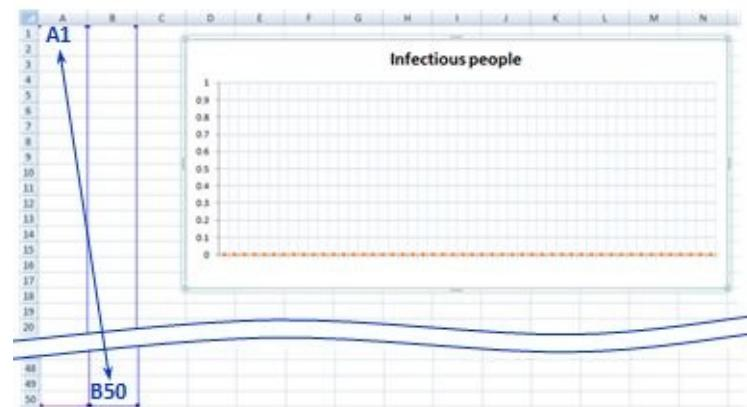

Figure 11.11 Excel sheet with a chart prepared to accept the data from the model
1. Create an Excel file `output.xlsx` with a chart with a data set "Infectious people", referencing the cell range A1:B50 (see Figure 11.11). Close the file.